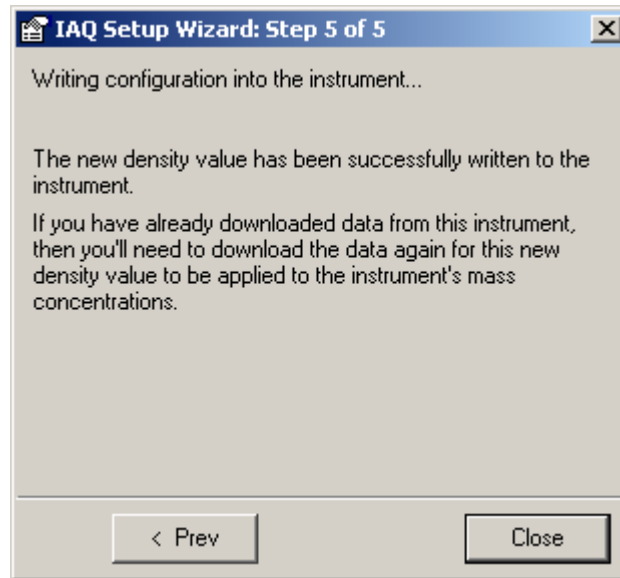

Figure 5-9 Configuration Change Confirmation Screen
9. When the desired value is entered, click the **Next** button to write this value to the IAQ and proceed to Step 5 (Figure 5-9).